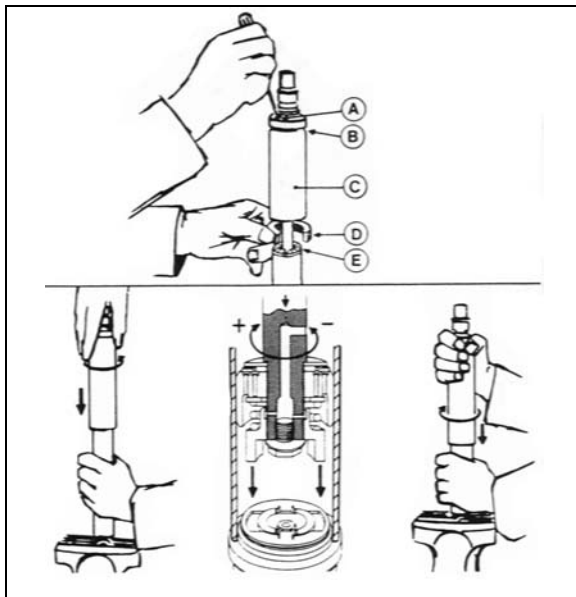

FIGURE 26: DAMPER 18643
To adjust opening and closing cycle speed on damper (Figure 26):
2. Fully close the damper while turning the dust cap or piston rod slowly CCW until it is felt that the cams of the adjusting nut engage in the recesses of the foot valve assembly (Figure 26).
Where a bump rubber was installed, refit same inside the dust cap and by fully closing the damper, the rubber will seat again at top of the dust cap. Refit the split plastic collar E (Figure 26).